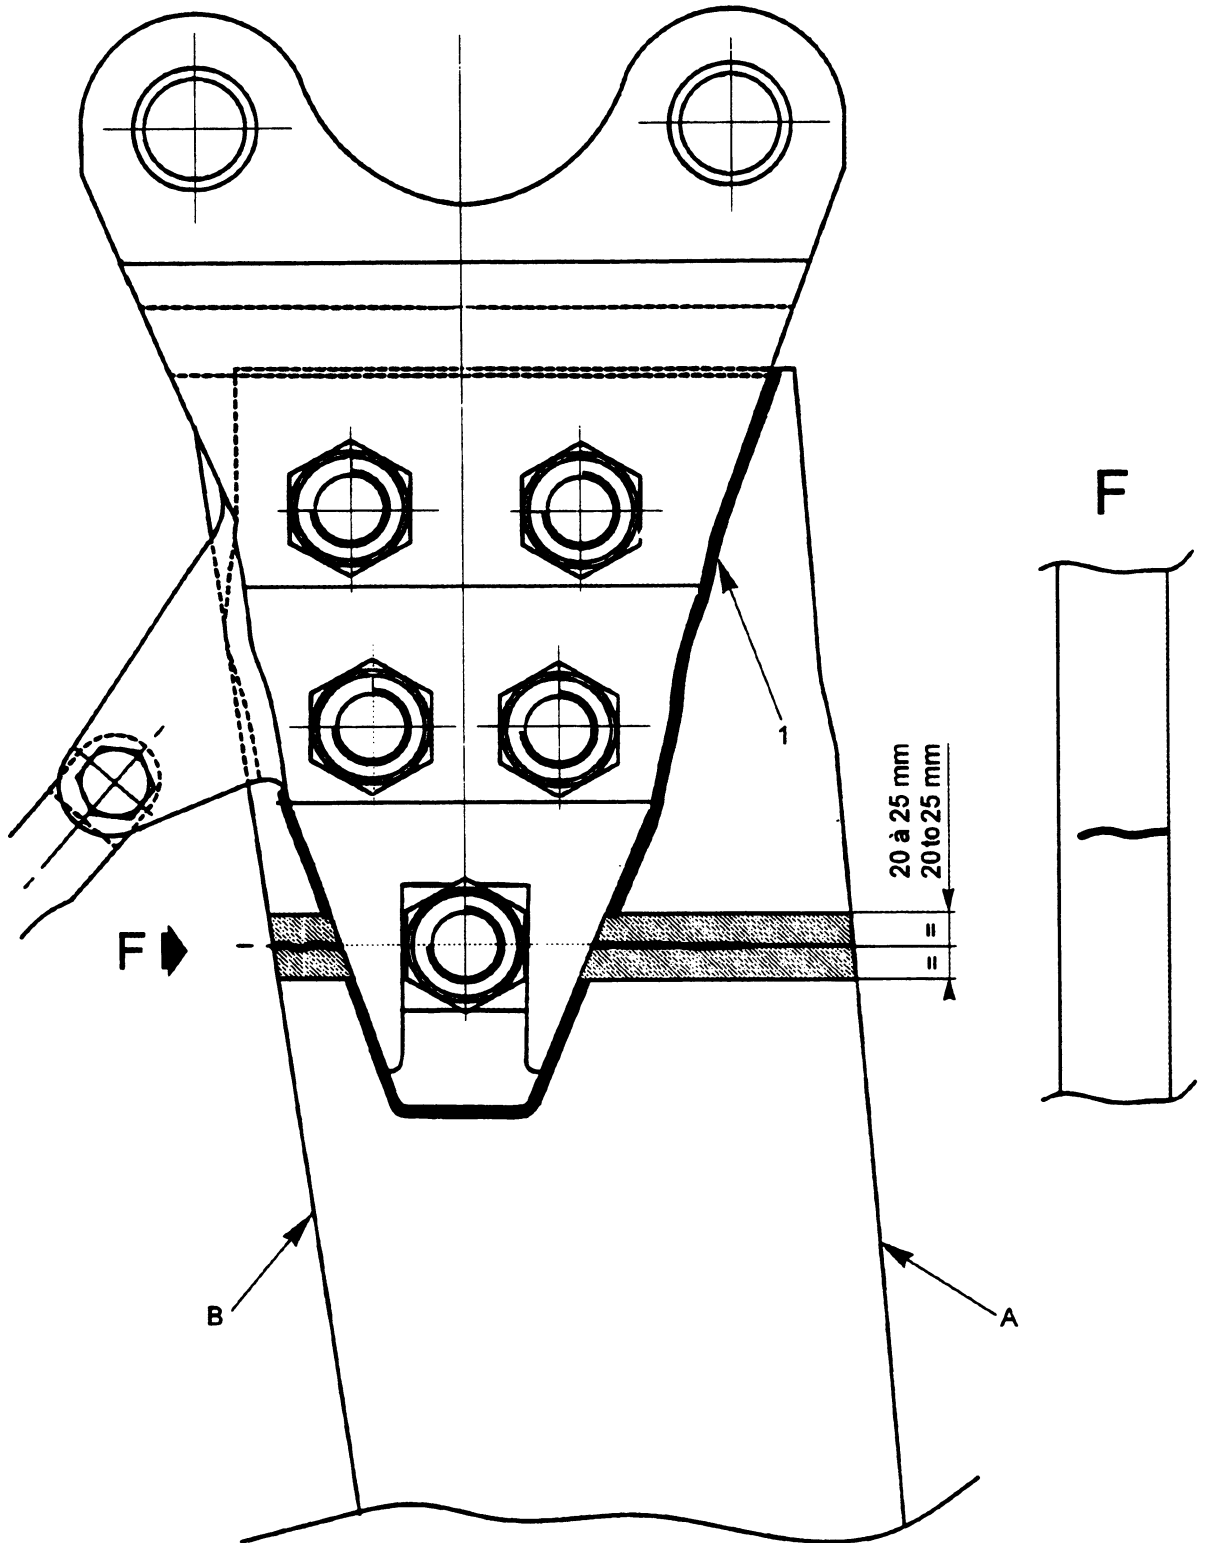

FIGURE 1
2. Check of the spar at the first blade cuff attachment bolt, FIGURE 1.
- Start with the check on the lower surface of the hatched area of the blade, then in continuation of this area, check the flat on the trailing edge side (B), the blade upper surface, then the flat side of the leading edge.